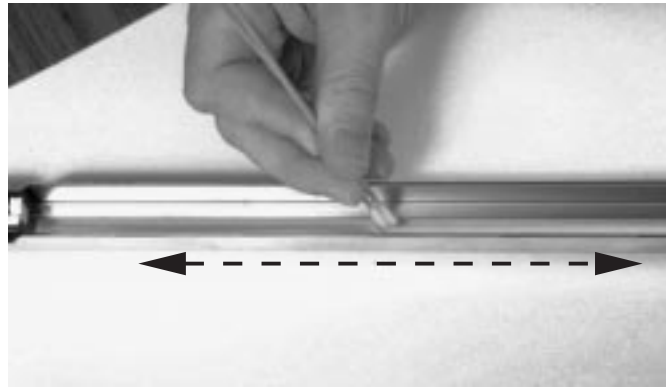

Figure 242. Cleaning a Scorotron Wire
**18** Clean each corona wire by placing it between two cotton swabs, moistened with soapy water, held in one hand. The picture in Figure 242 shows cleaning the wire in a scorotron; however, the cleaning method is the same for the wires in the corona assembly.